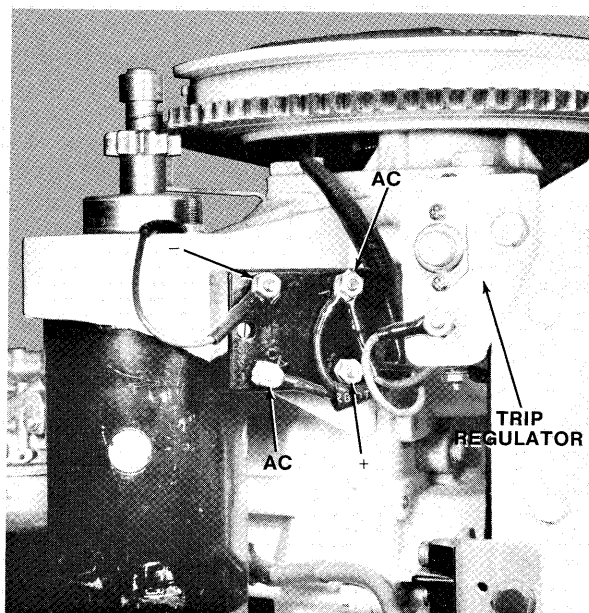

Figure 5-Trip Regulator
- 1. Remove rectifier by removing hex head screw securing same to cylinder exhaust cover. See figure 5.
- 1. Install trip regulator on exhaust cover and secure with hex head screw. See figure 5.